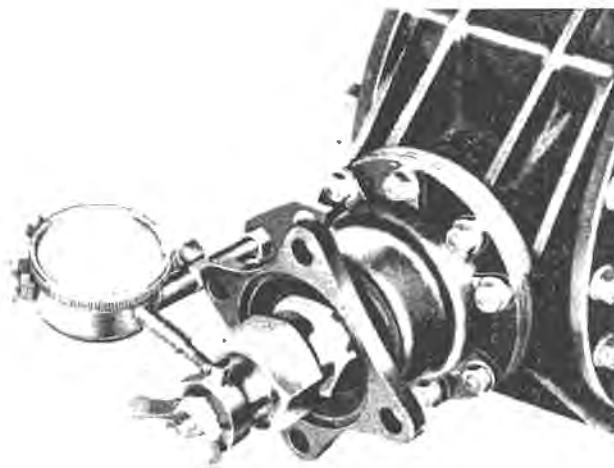

Fig. J.20.—Checking the Crown Wheel and Pinion Backlash.
- Remove the nut and lockwasher from the pinion driving flange and fit the adaptor and dial as shown in Fig. J.20. R.H.367 is used in conjunction with previous tool as supplied for Bentley Mk. VI. and "R" types, to suit unified threads. The lever attached to the adaptor can be rotated if the wing nut is released.